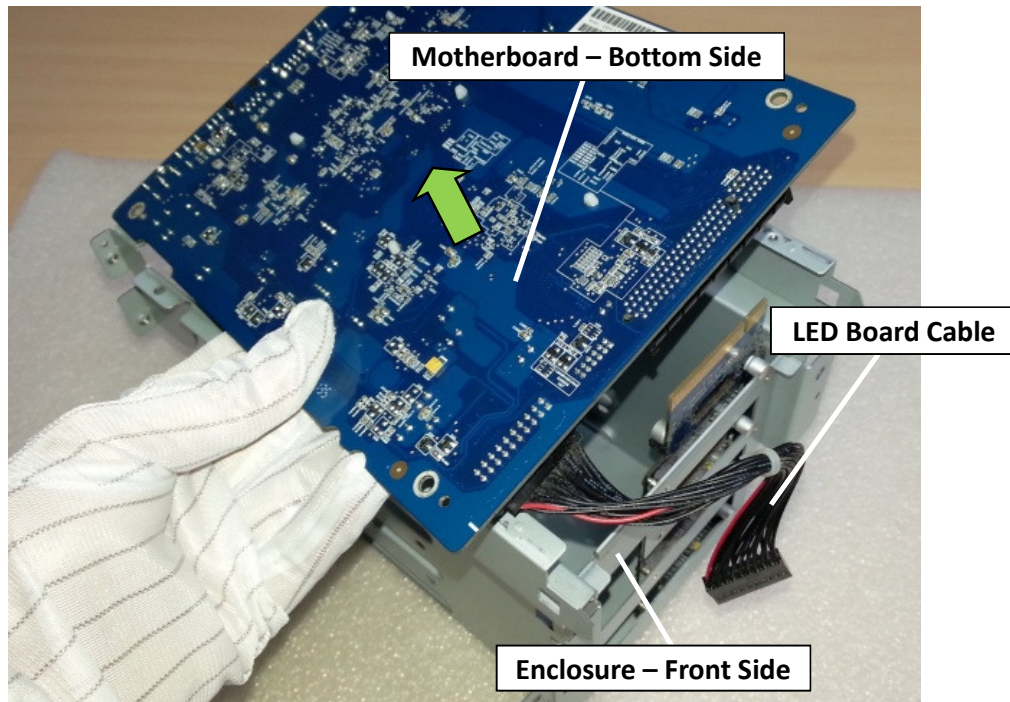

Fig. 64
3.1.16 Then remove the motherboard from the bottom of the enclosure. (Fig. 64)